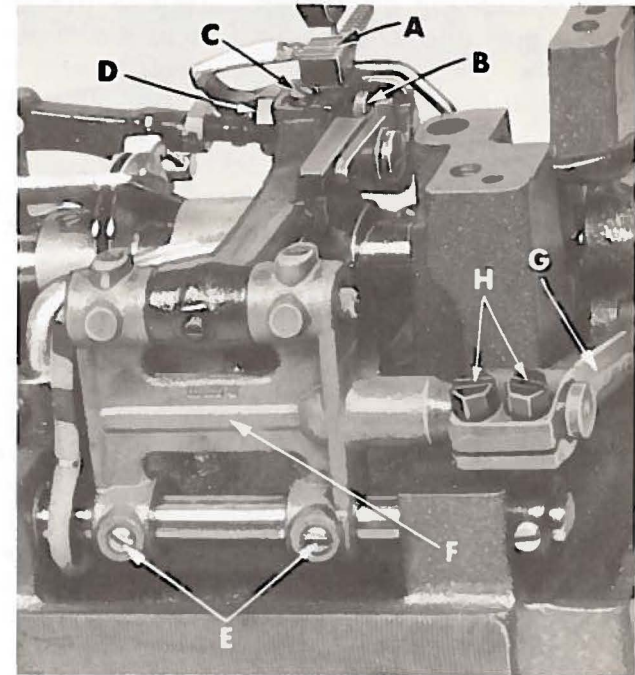
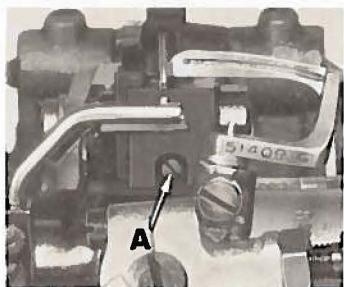

Fig. 4
Fig. 5
Set the feed dog (A, Fig. 4) in the throat plate so there is equal clearance on all sides. See that the tips of the teeth extend slightly less than the depth of a tooth above the throat plate and are parallel with the throat plate at high point of travel. Height can be set by loosening feed dog attaching screw (B) and adjusting feed dog supporting screw (C). Parallelism can be set by loosening nut (D) and rotating feed dog holder adjusting screw (A, Fig. 5), as required and retighten nut. Side clearance can be set by loosening screws (E, Fig. 4) and moving feed rocker (F) to the right or left, as required.